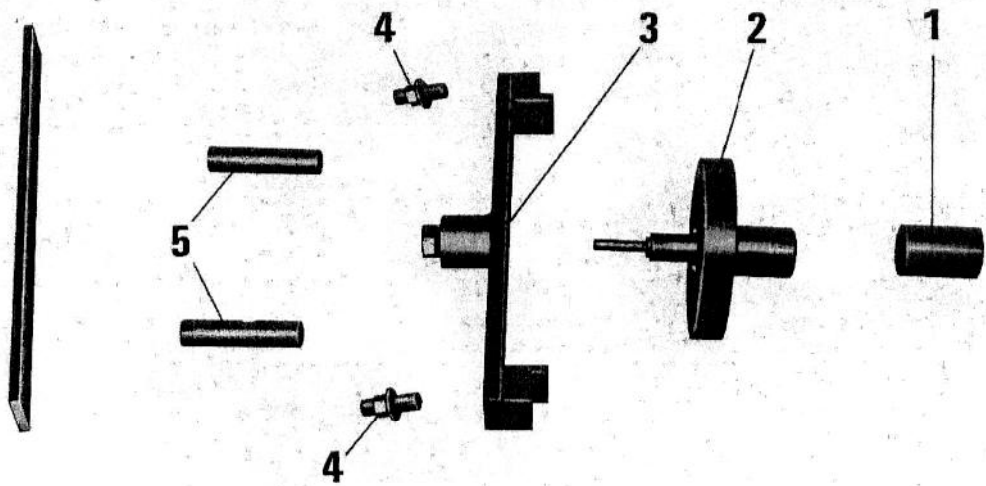
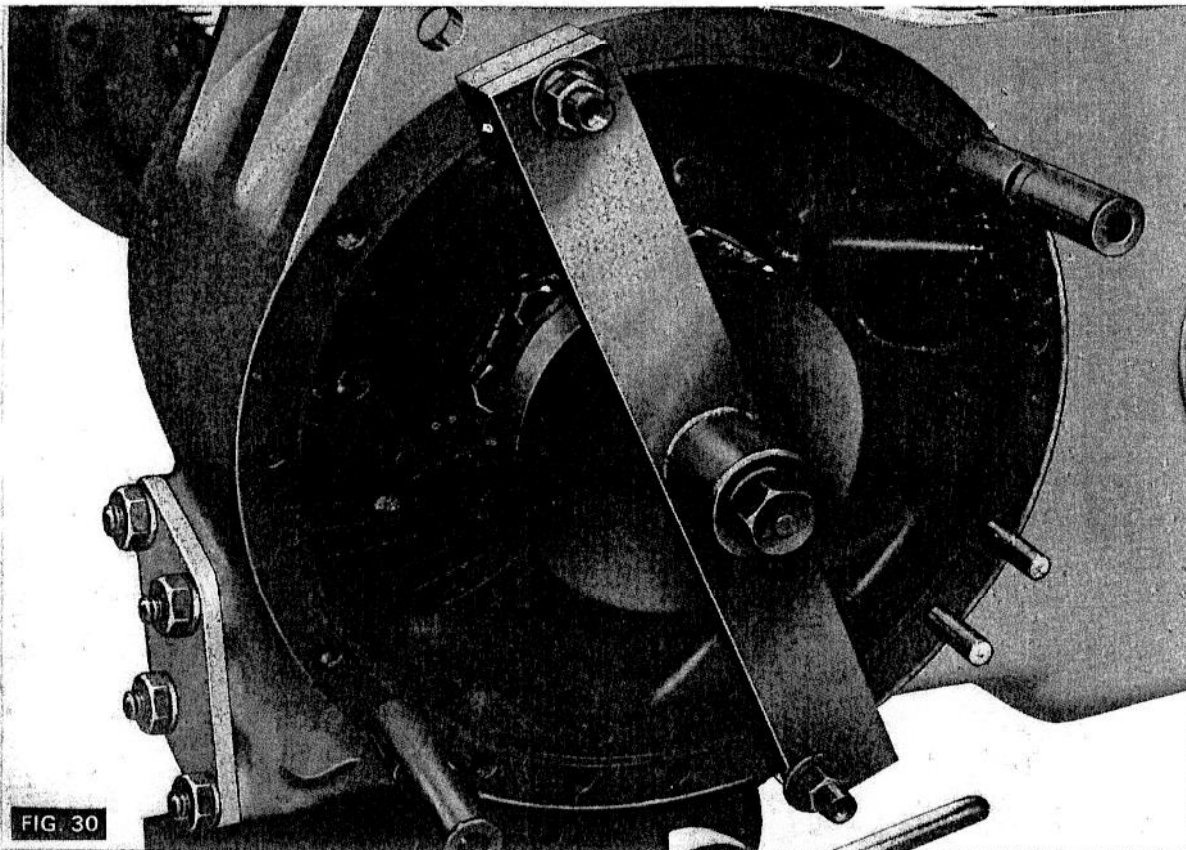

FIG. 29
FIG. 30
4. Fit the bearing cup into the centraliser (2) (Fig. 29).
5. (Fig. 29) Fit the guide (1) and centraliser (2), of tool MF 245C, into the splined differential gear.
6. Assemble the clamp bar (3) to the centraliser, with the pre-load adjusting bolt fully slackened.
7. Position the clamp bar ends over two of the studs on the centre housing and secure the bar with the two special sleeved nuts (4).
8. Screw the two setting blocks (5) onto diagonally opposite studs on the centre housing as shown in Fig. 30.